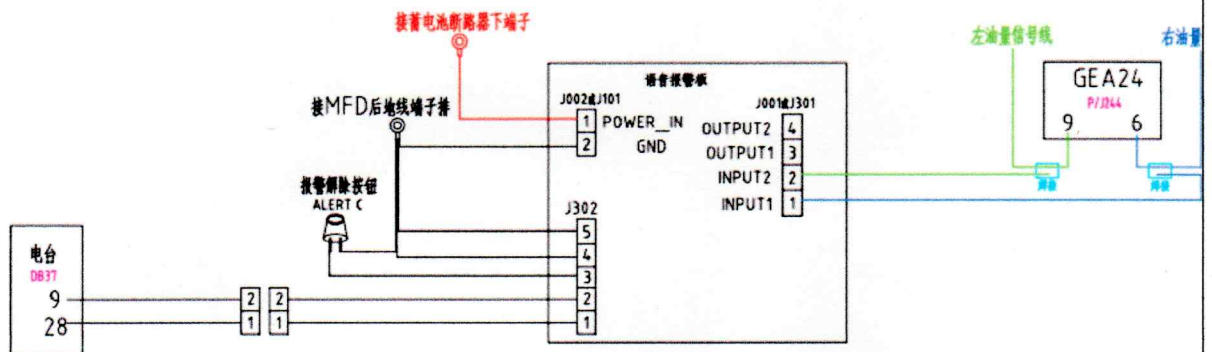

figure 15 Overall schematic diagram III of modified wiring for voice alarm board
6. Operation for voice alarm board (Refer to Figure 15 for operation)